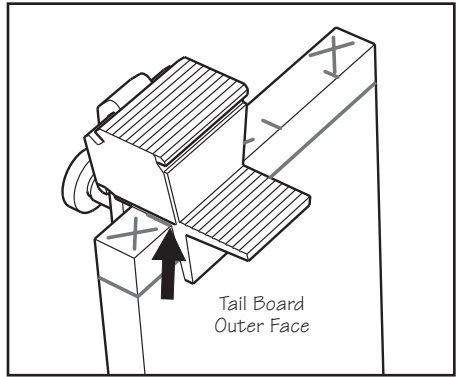

Figure 10: Guide in place; note that waste area is exposed and guide is exactly on the mark.
8. Place the guide on the end of the tail board such that the **waste area is exposed**. The guide should be placed right on the mark (see **Figure 10**) to ensure that the saw is always cutting waste wood. Notice that the mark the guide needs to be placed on is the point where the mark crosses the **edge** of the board.